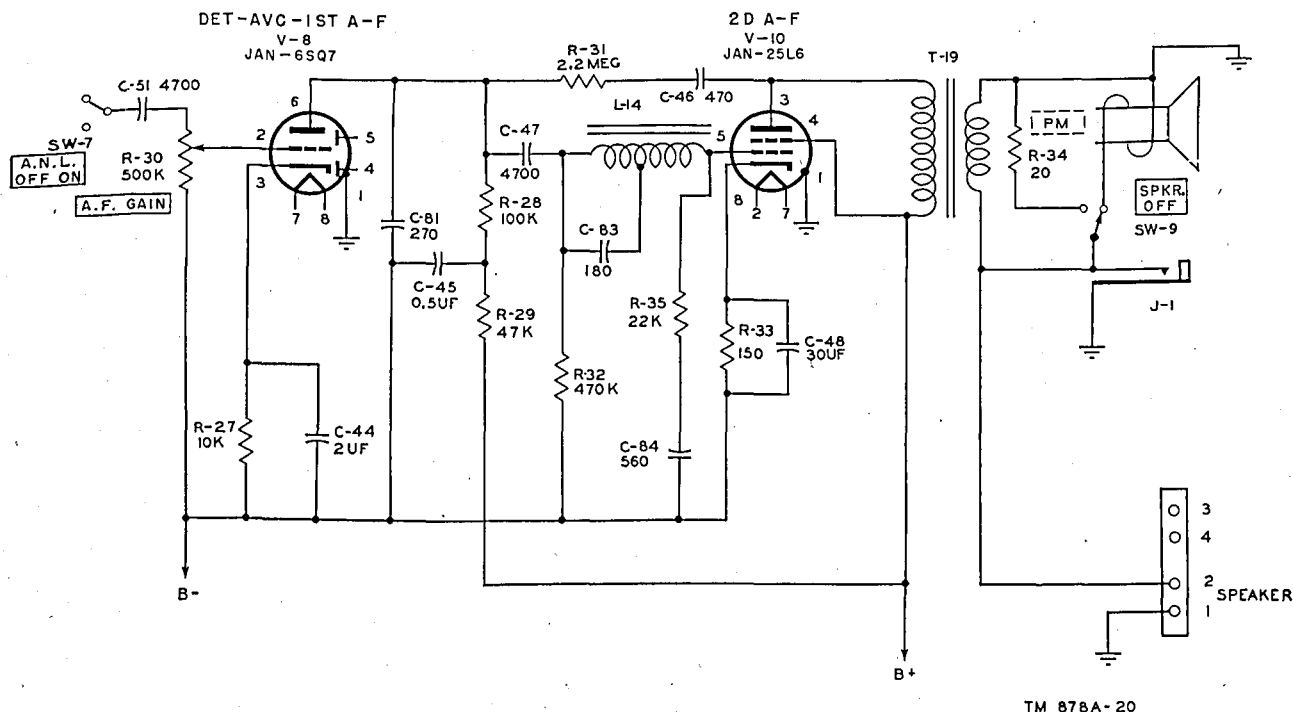
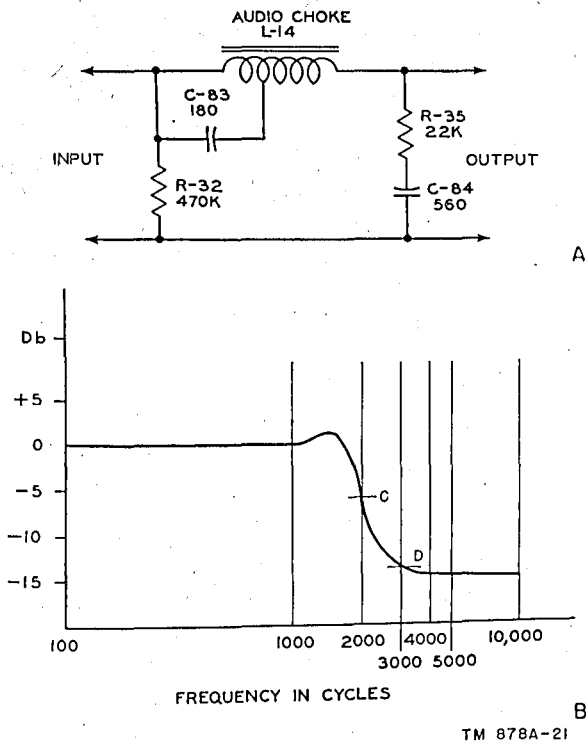

Figure 27. A-f amplifiers, simplified schematic diagram.
Figure 28. Audio filter circuit and response curve.
57. A-f Amplifiers (figs. 27 and 28)
b. The audio system of Radio Receiver R-96A/SR is intended to reproduce mostly voice frequencies or audio tones up to about 2,000 cps (cycles per second). A special audio filter circuit is inserted between the first and second a-f amplifiers (V-8 and V-10) to cut off unwanted frequencies. The curve in B, figure 28 shows the typical response of the audio amplifiers after this filter is added. The major component is choke L-14 (fig. 27 and A, fig. 28), which is used with capacitors C-83 and C-84 to produce a curve similar to the one shown in B, figure 28. Resistors R-32 and R-35 give the curve a gentle *rolloff* so that it does not have abnormal peaks at certain frequencies or sharp cut-offs. The values are chosen to give a slight rise just past the 1,000-cycle point, dropping off to about -6 db (decibels) near 2,000 cycles (point C), with nearly a 14-db drop at 3,000 cycles (point D). Higher in frequency than 3,000 cycles, the response is almost flat but very low output is obtained. This assists greatly in lowering h-f noise.